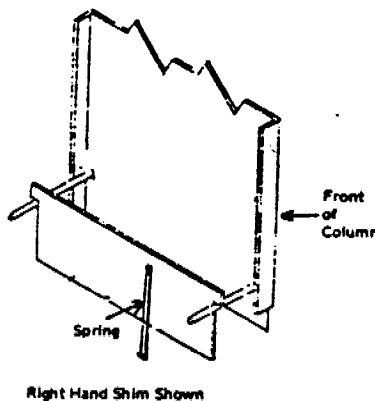
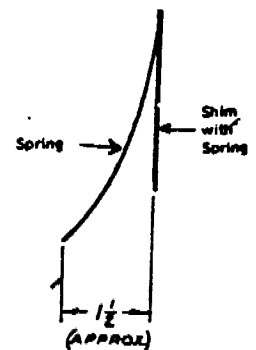

Fig. 2
Fig. 3
2. Install the right shim (part #A4090.06) as shown. Fig. 2. Install the left shim (part #4080.06) not shown in a similar manner.
3. In addition for Tropicana install one (1) black shim each side of column.
4. Make sure dimension where shown between spring and shim is 1 1/2". Fig. 3.